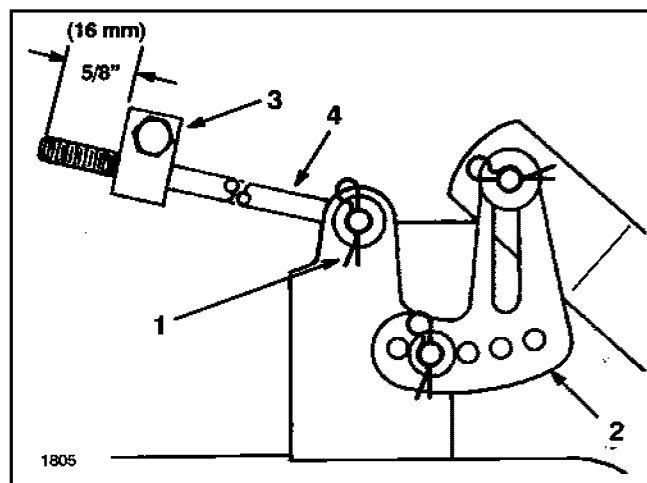

Figure 43
2. Measure the length of the rod extending out the front of the adjusting block on the sides of the chassis (Figure 43). If the rod length is not 5/8 inch (16mm), remove the hairpin cotter and washer from the end of the rod and turn the rod until the 5/8 inch (16mm) dimension is obtained. Then install the end of the rod into the hole in the mower mount and secure it in place with the washer and hairpin cotter. Repeat this procedure on the other side.